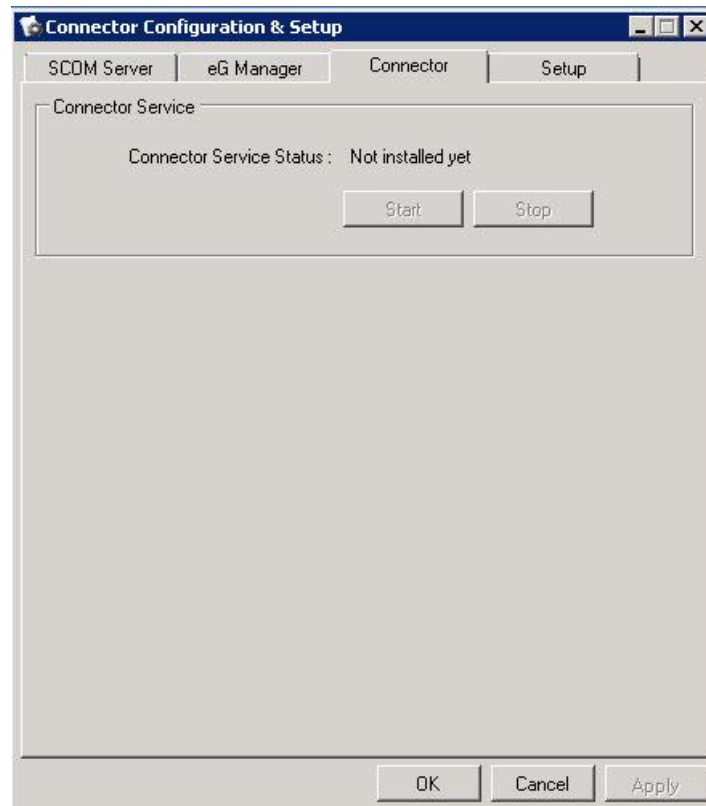
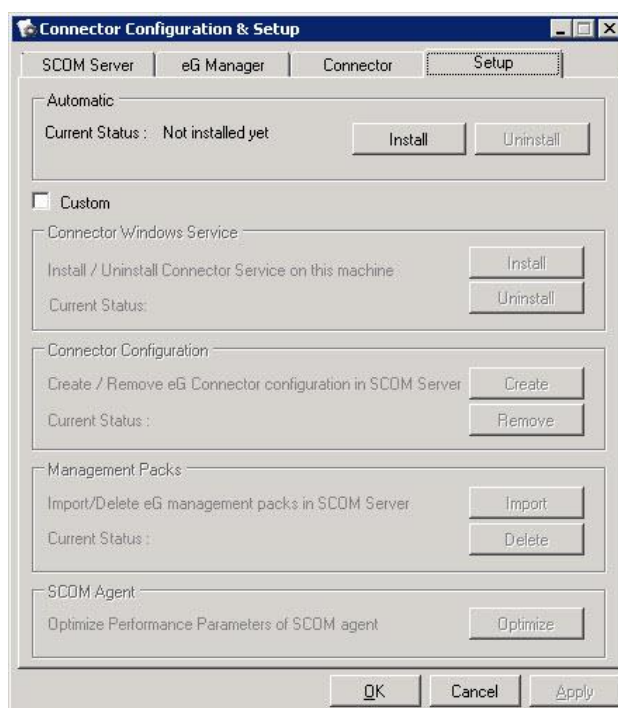

Figure 2.12: The Connector tab page
Figure 2.13: The Setup tab
8. Click on the **Connector Service** tab page. If the connector service is yet to be installed, then the **Start** and **Stop** buttons in Figure 2.12 will be disabled. Also, the **Connector Service Status** will be *Not installed* (as shown by Figure 2.12). If the connector has been installed but is yet to be started, then the **Start** button alone will be enabled. You can click on the **Start** button to start the service and the **Stop** button to stop the service.
9. Now, click on the **Setup** tab in Figure 2.12 to execute the setup tasks. The **Setup** tab provides 2 options. Automatic setup will execute all the required tasks in a single action. To perform this auto setup, click on the **Install** button in the **Automatic** section of Figure 2.13. You can uninstall the connector at any point in time, by simply clicking the **Uninstall** button in the **Automatic** section.